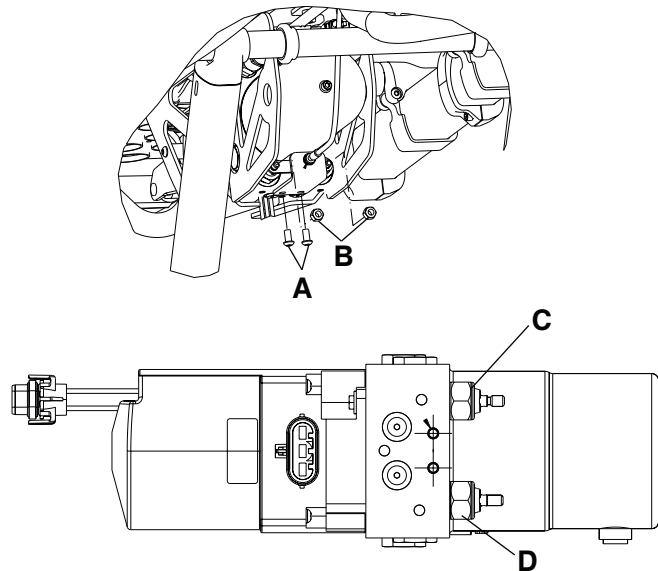

Figure 16 – Hydraulic manual release valve
3. Using a T27 Torx driver, remove the two button head cap screws (A) that secure the manual release cable bracket to the bottom of the hydraulic subassembly (Figure 16).
5. Using a 7/16" combination wrench, remove the Nylock hex nut (B) from each of the valve stems (Figure 16).
6. Using a 7/8" hex wrench, remove the valve (C or D) to be replaced (Figure 16).